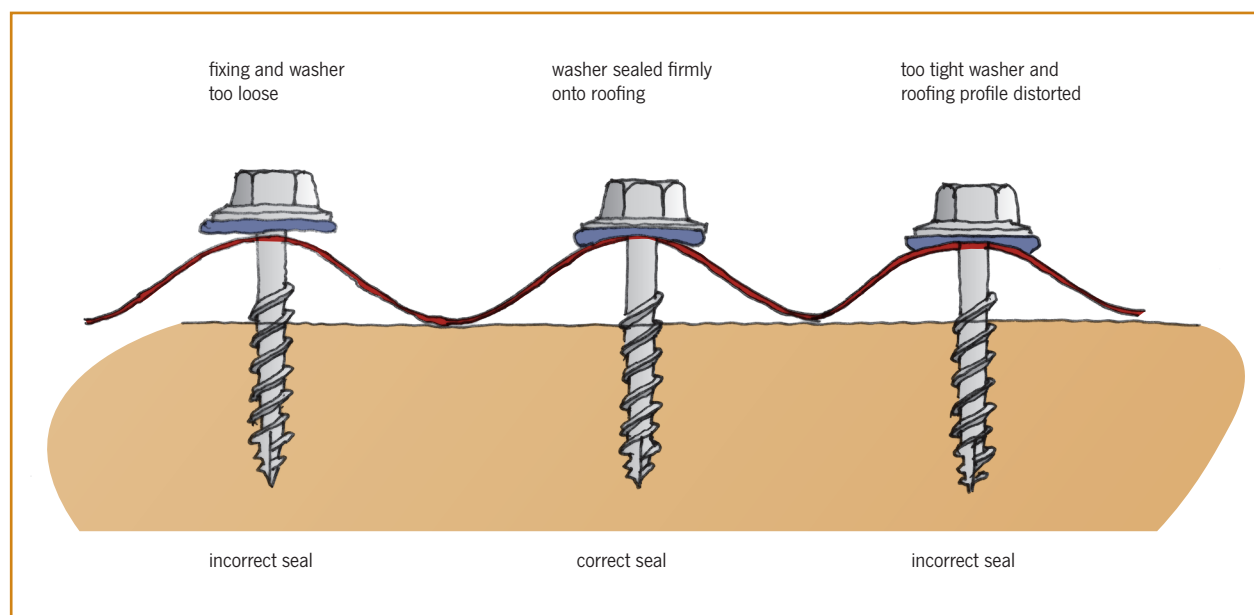

Figure 2. Installation of screws and sealing washers (roofing screws for fixing into steel purlins shown).
- Use non-conductive EPDM washers with screws and ensure screws are correctly tightened (see Figure 2).